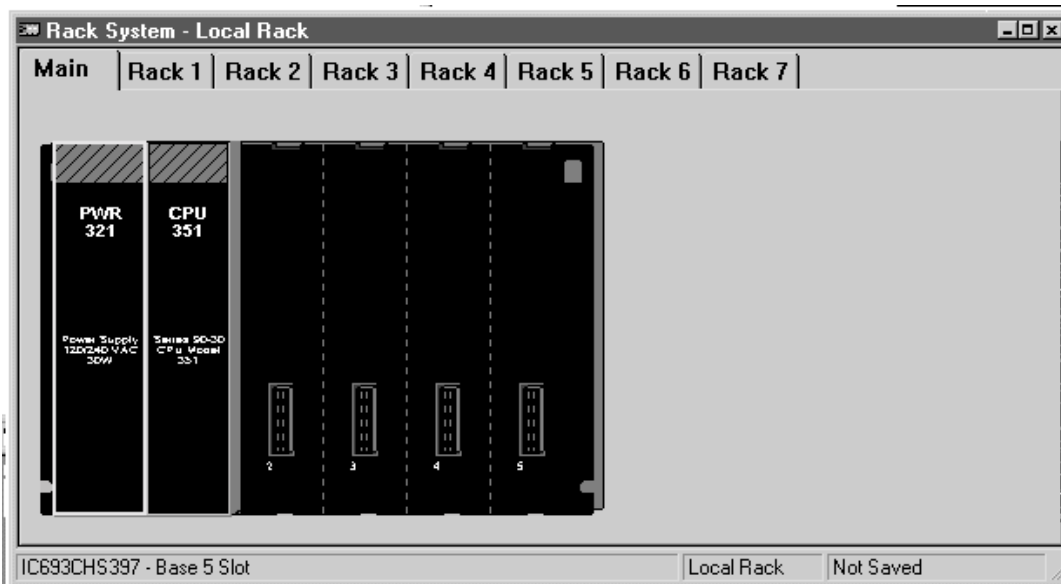

Figure 3.1
Step 2: Select Hardware Configuration. A screen similar to **Figure 3.1** should appear.